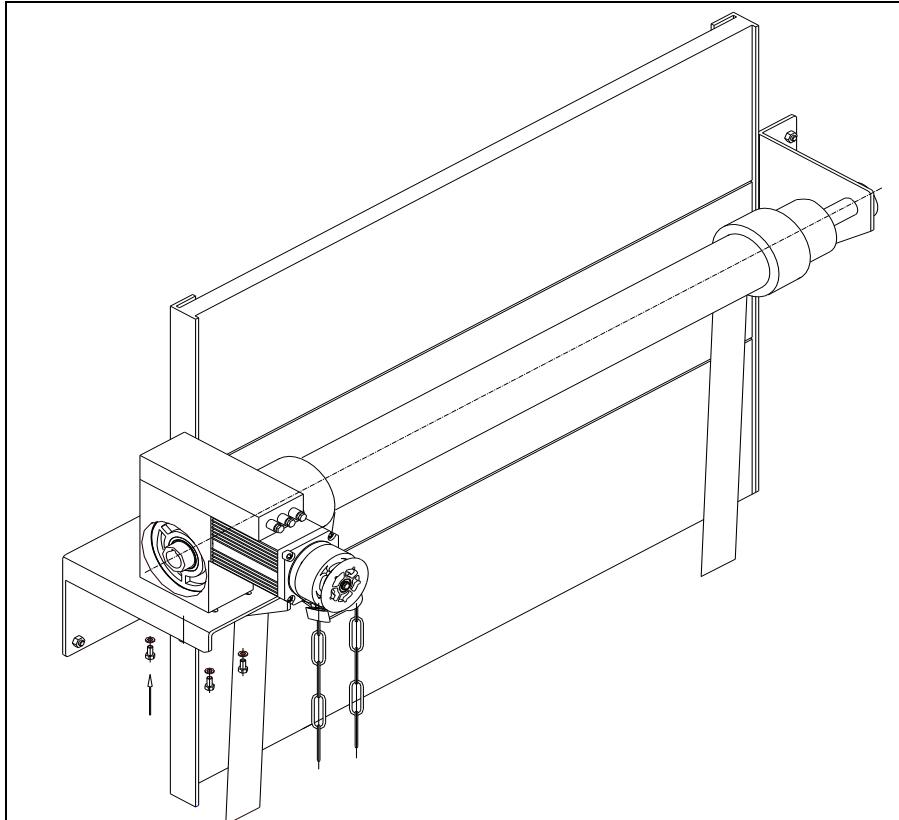

Fig.5
- Place the door operator on the base plate, fix the operator to the plate with four screws (M10×20). See Fig.5.